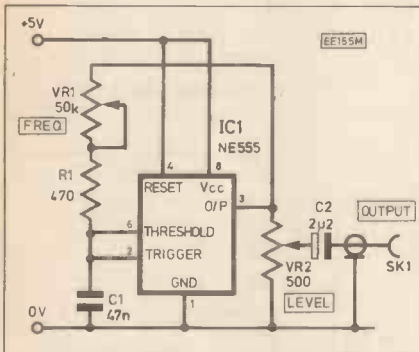

Fig. 10. Circuit diagram of the Simple Audio Generator.
The complete circuit diagram of the Simple Audio Generator is shown in Fig. 10. As can be seen it consists of a handful of components which are readily available from most suppliers. The heart of the circuit, the 555 timer, IC1 is a very stable device designed to generate accurate time delays. Its internal working is quite simple, consisting of a pair of comparators working at 1/3 and 2/3 of the supply voltage. These comparators set and reset flip-flops which in turn drive an output stage.
In the configuration of Fig. 10, the timing circuit consists of only one CR network, rather than two. This ensures unity mark-space ratio of the output by using the same charge and discharge path. The CR network consisting of $(R1+VR1)C1$, can be adjusted by VR1 to produce a frequency range of between 300Hz and 15kHz.
The frequency (F) of the output of the configuration shown in Fig. 10 is given by: